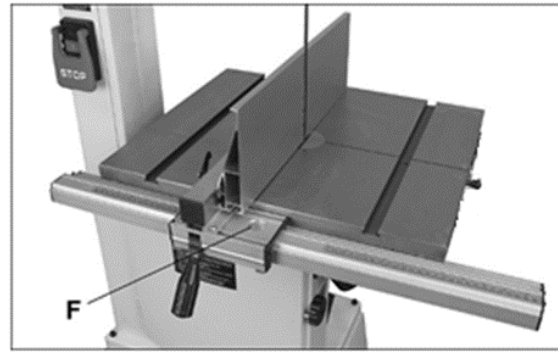

Figure 5-20
10. Move fence against blade (do not deflect blade by pushing into it). See Figure 5-20.
4. With fence against blade, verify that cursor (F, Figure 5-20) aligns with zero on scale.